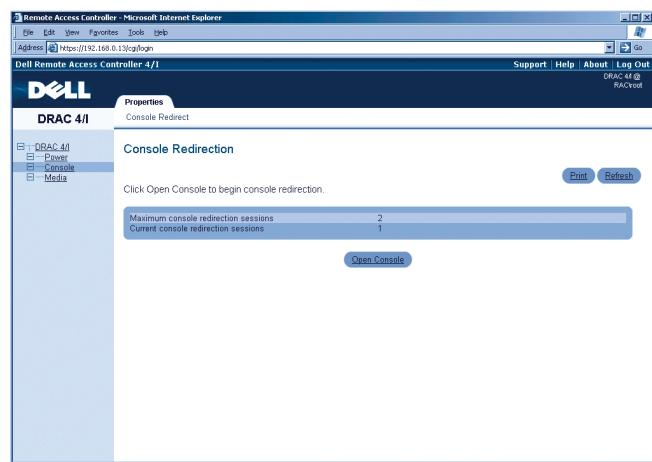
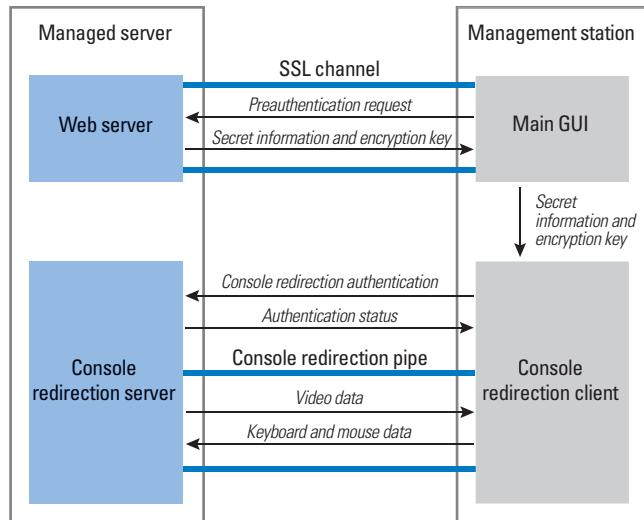

Figure 4. Main GUI Console Redirection page
Figure 5. Console redirection security architecture
1. The administrator logs in to the main GUI and clicks the Open Console button (see Figure 4). The main GUI sends a preauthentication request to the DRAC 4's embedded Web server via a secure SSL channel (see Figure 5).